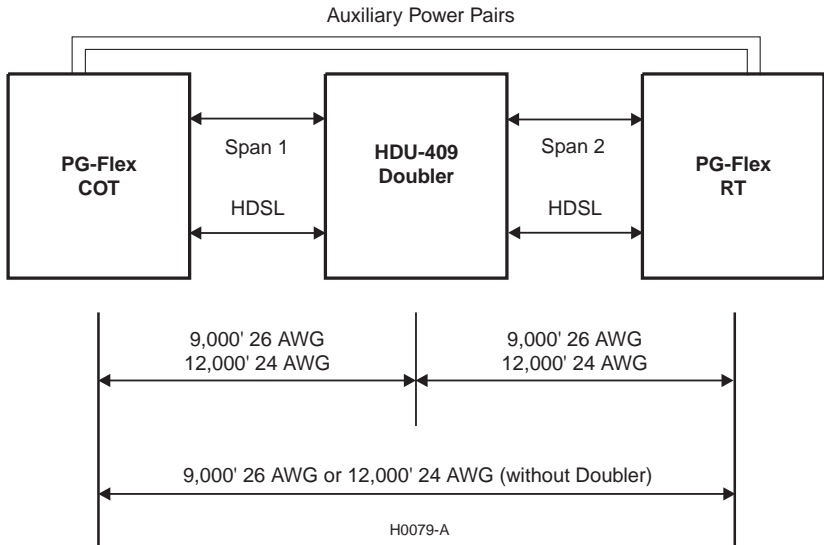

Figure 2. Typical HDU Installation with PG-Flex
Figure 2 shows a typical HDU-409 List 2 or List 3 installation for the PG-Flex subscriber carrier system. For each doubler installed between the PG-Flex Central Office Terminal (COT) and Remote Terminal (RT), two auxiliary power pairs are required between the COT and RT. A maximum of two doublers may be installed in a PG-Flex system.